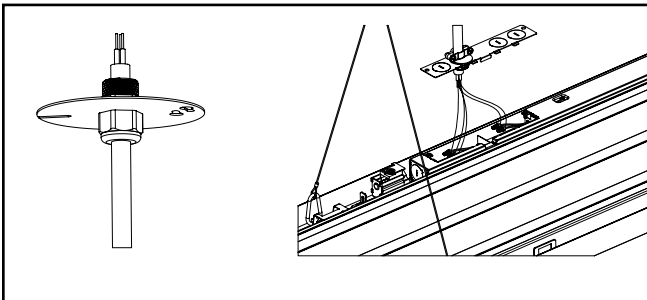

Figure 20.
9. Install wire to the round J-box cover, connect the wire to the ceiling, then install the round J-box cover to the ceiling. Connect wires to the fixture J-box: green to green (ground), white to white (neutral), black to black (hot), Pink and violet wires are provided to connect to a 0-10V dimmer. See Fig.20.